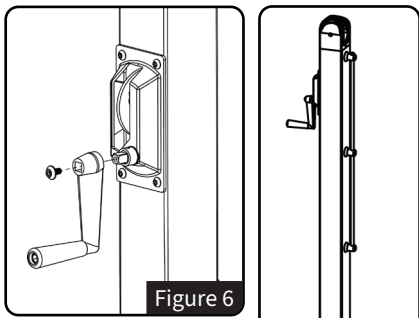

Figure 6
- Replace and tighten screw. See *Figure 6*.